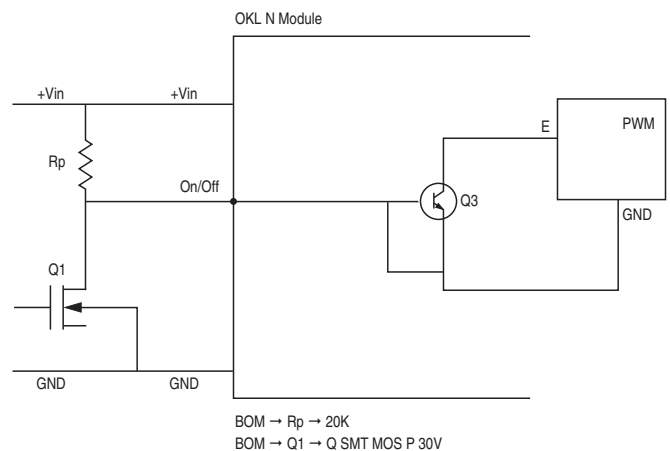

Figure 8. On/Off Circuit Control for Using Negative On/Off Logic
**Negative**—Units are enabled when the ON/Off is open or brought to within a low voltage (see specifications) with respect to –Vin. The unit is off when the ON/Off is pulled high with respect to –Vin (see specifications). The On/Off circuitry is shown in figure 8. The On/Off pin should be pulled high with an external pull-up resistor (20K ohms). When Q1 is in the off state, the On/Off pin is pulled high, transistor Q3 is turn on and the unit is off. To turn on the unit, Q1 is turn on, pulling the On/Off pin low and turning Q3 off resulting on the unit being on.